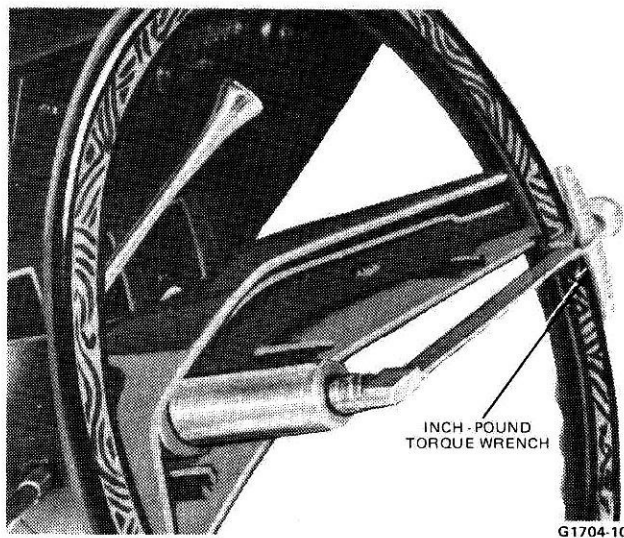

FIG. 3 Checking Steering Gear Preload—Typical
3. Measure worm bearing preload by attaching an in-lb. torque wrench to the steering wheel nut (Fig. 3). With the steering wheel off center, measure the pull required to rotate the input shaft approximately one and one-half turns to either side of center.